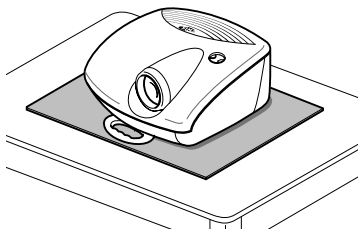

Fig. 12
**i** Do not switch-on the projector if it is standing on surfaces sensitive to heat, as this may result in damage caused by the hot air outlets underneath. Should this be unavoidable take extra precaution of protecting the surfaces with a layer of heat resistant material (Fig. 12).